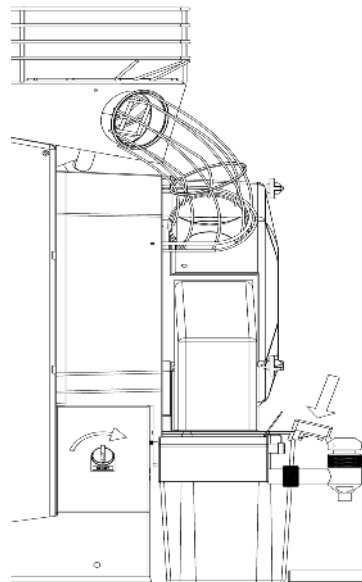

Figure 7
Caution : To start the Fresh model, you have to turn the on / off button switch (64) clockwise to the open position and then apply pressure on the tap (63) (Figure 7).